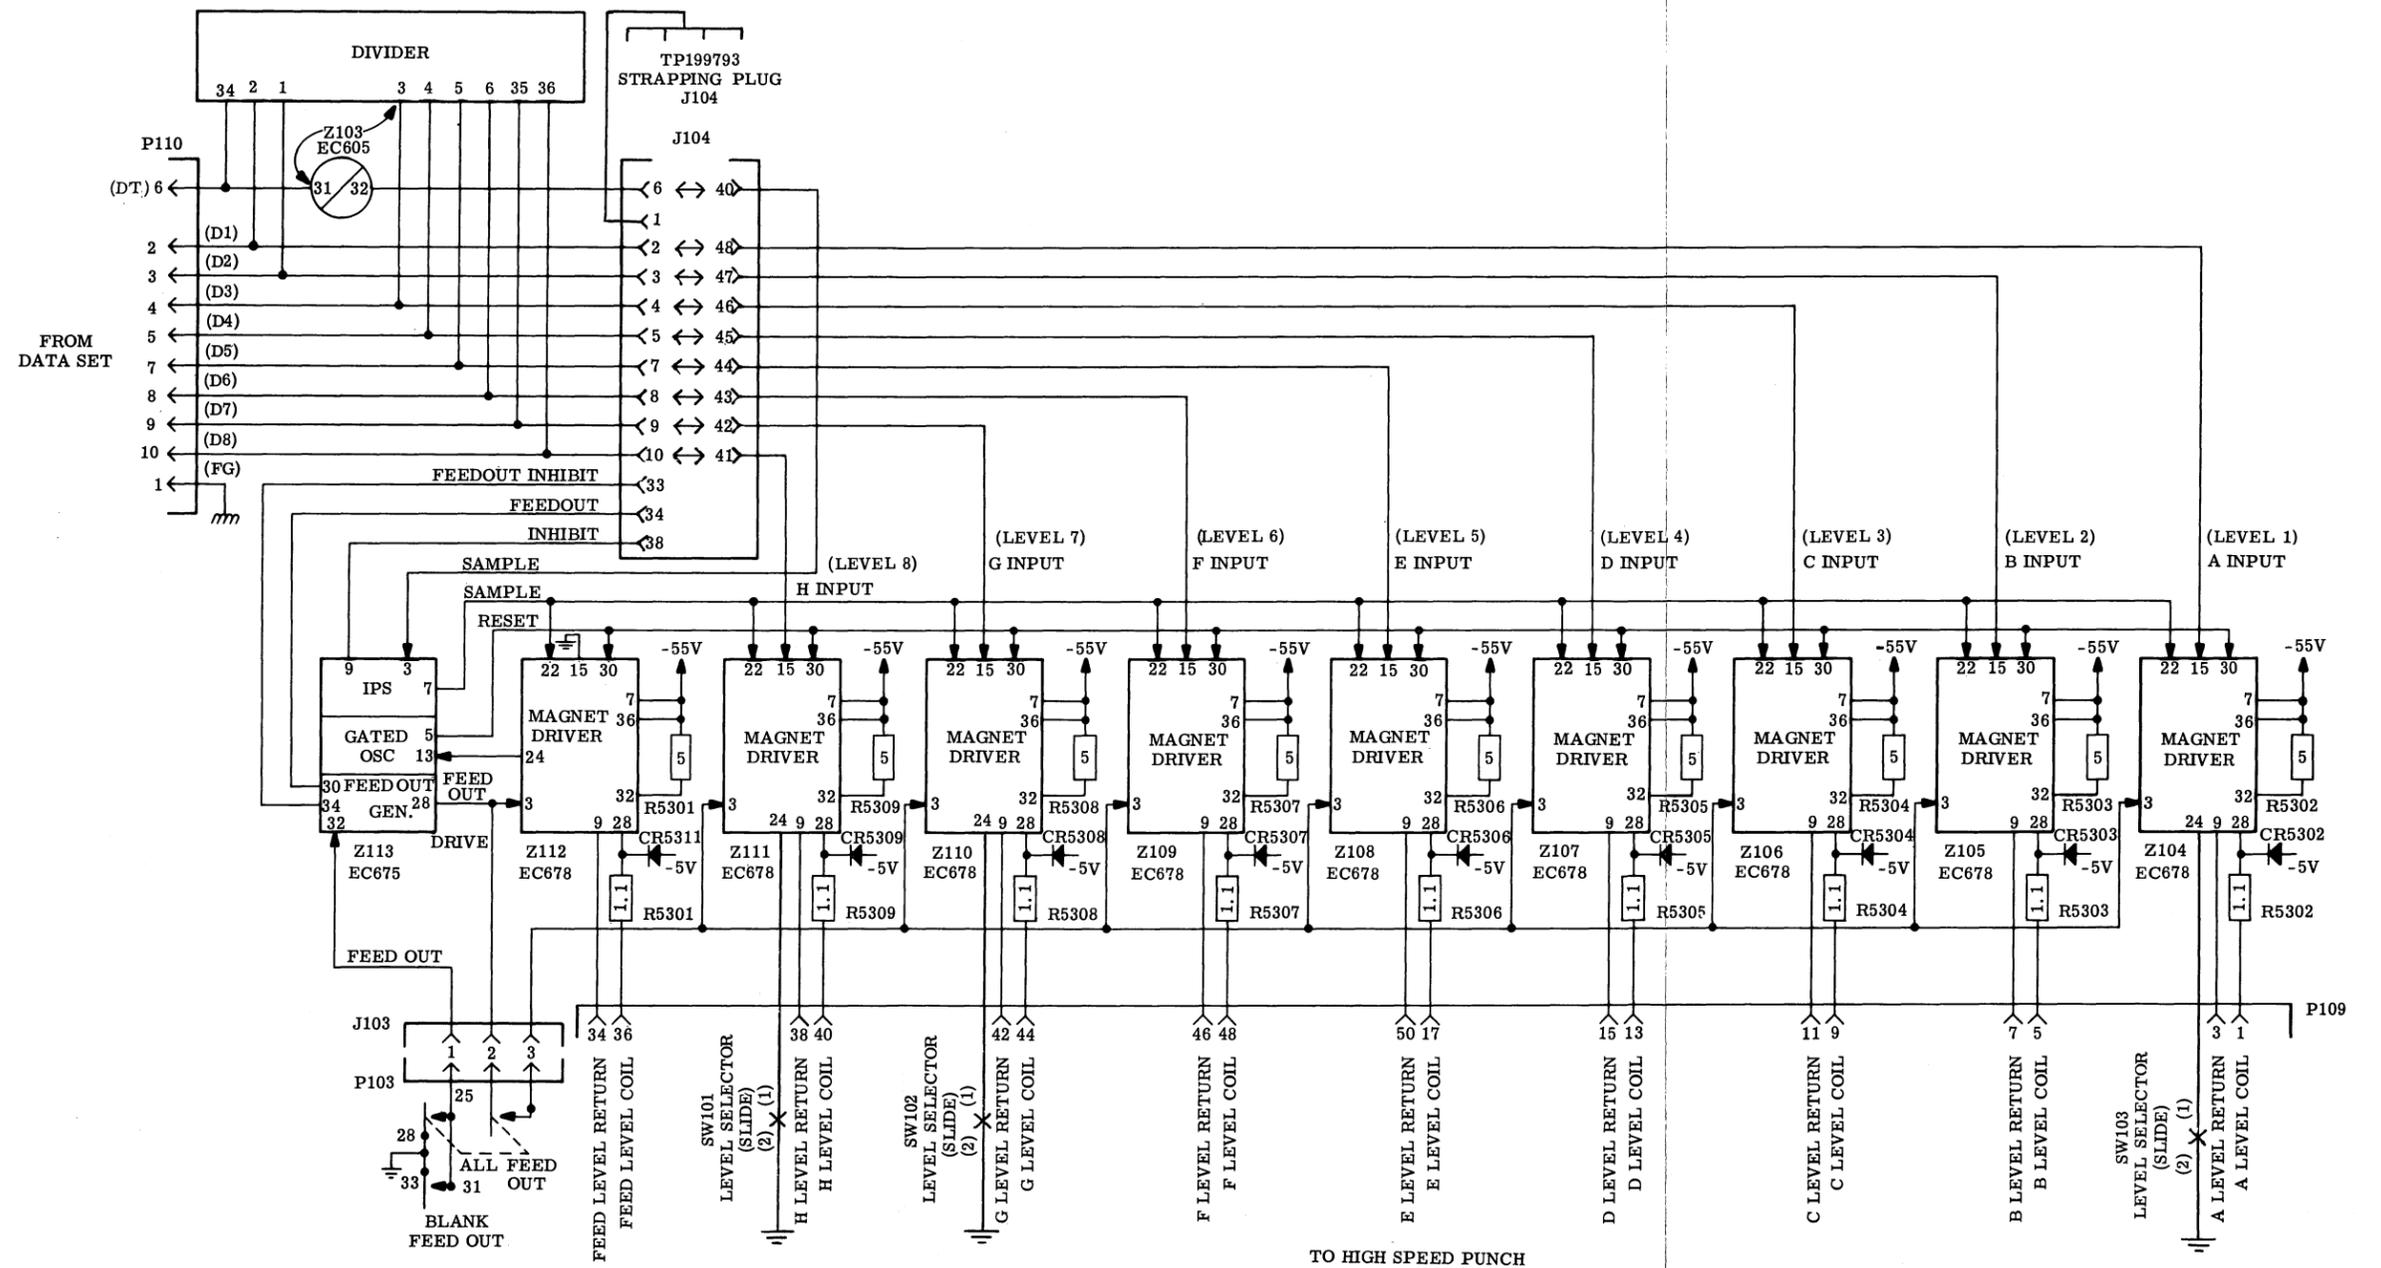

Figure 6 - Punch Driver Circuits
Overall (Figure 6)
4.29 Early design 5B Receivers are wired for 8-level operation. These Receivers require the addition of straps for 5-, 6- or 7-level operation. Late design Receivers have three-level switches (Figure 6) on the front panel to select or omit levels numbered 8, 7 and 1 (from left to right) respectively. Add straps or position switches for the various levels as indicated below.